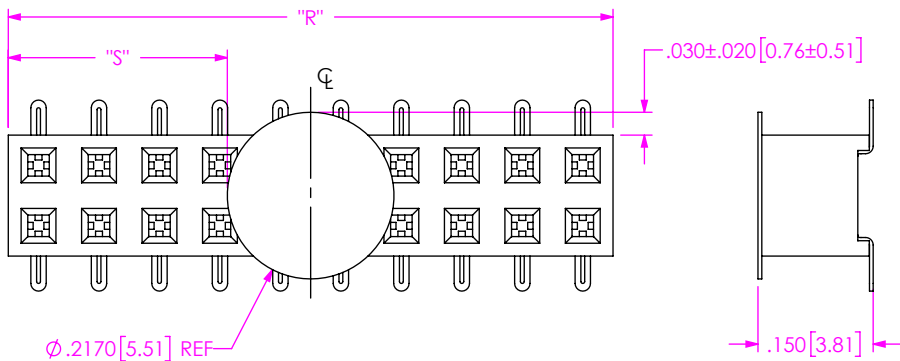

FIG 4
-K: POLYIMIDE FILM (USE K-DOT-.217-.313-.005) (2 POS MIN, SEE FIG 4, SHT 2) (AVAILABLE ON LEAD STYLE -02 ONLY)